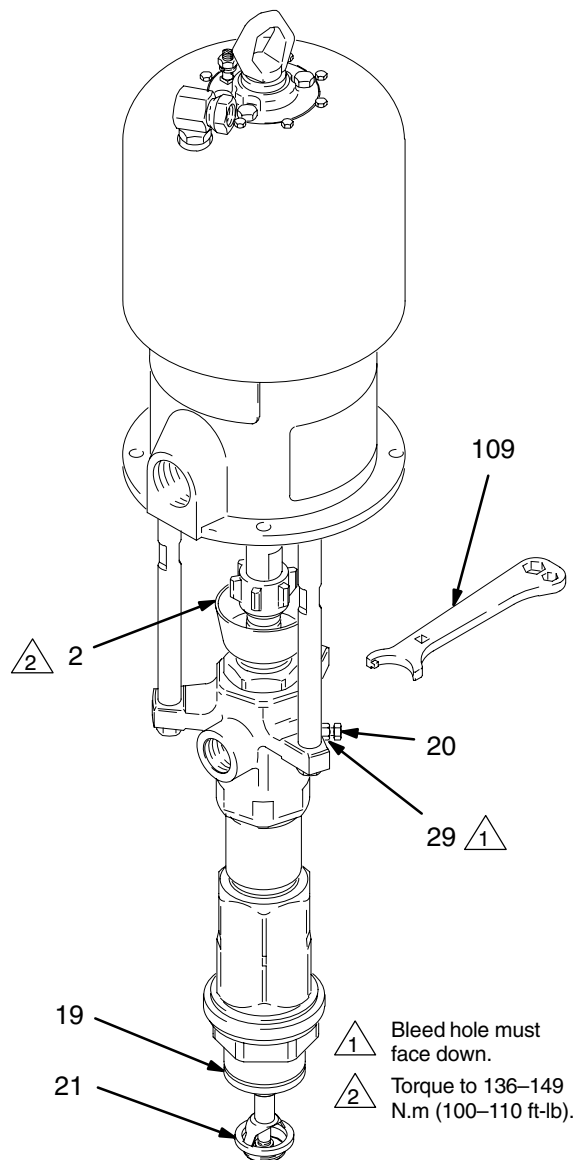

Fig. 4
Before starting, fill the packing nut (2) 1/3 full with Graco Throat Seal Liquid (TSL) or compatible solvent. See Fig. 4.
8. If the pump fails to prime properly, open the bleeder valve plug (20) slightly. Use the bleed hole, on the underside of the valve body (29), as a priming valve until the fluid appears at the hole. See Fig. 4. Close the plug.
**NOTE:** When changing fluid containers with the hose and gun/valve already primed, open the bleeder valve plug (20), to help prime the pump and vent air before it enters the hose. Close the plug when all air is eliminated.